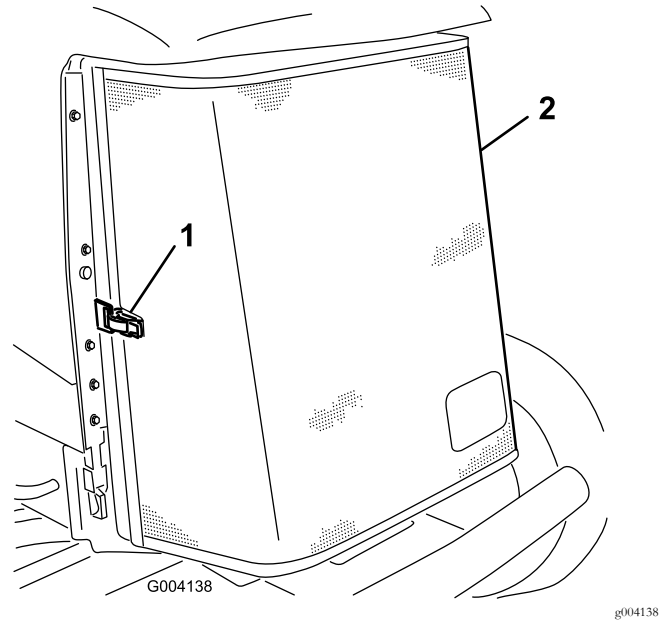

**Figure 50**
3. Unlatch the clamp and pivot open the rear screen (Figure 50).